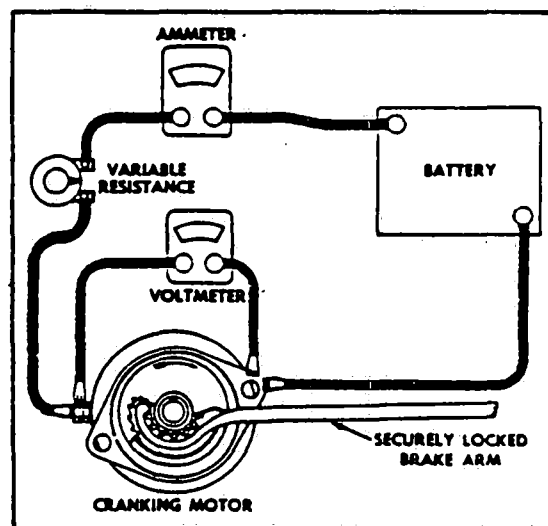

Figure 11-41. Resistance Test Hookup
**11-82. RESISTANCE TEST.** (Refer to Figure 11-41.) This test requires equipment similar to the lock-torque test, with the exception that the pinion is locked securely so it cannot rotate. When the specified voltage is applied, the current should fall in a range as indicated in paragraph 11-86. A high current indicates grounded or shorted conductors, and a low current indicates excessive resistance.